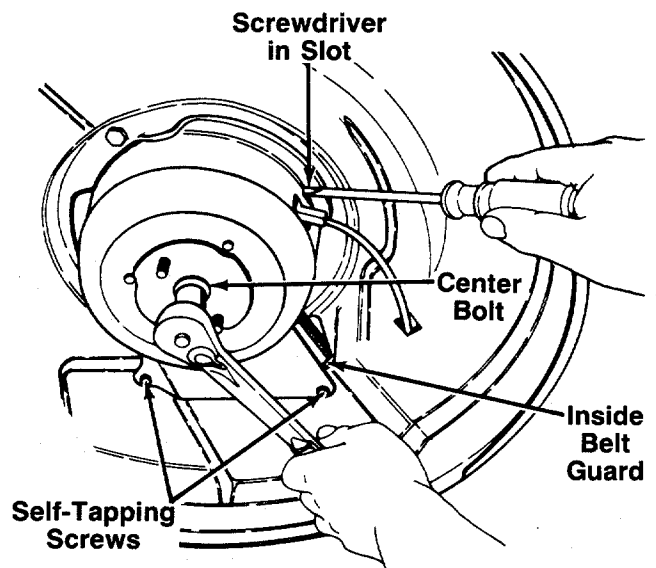

FIGURE 27.
7. Remove the inside belt guard by removing two self-tapping screws. A 3/8" wrench is required. See figure 27.
- a. Insert a screwdriver into the slot provided in the blade brake/clutch housing where the control cable enters the housing. See figure 27.